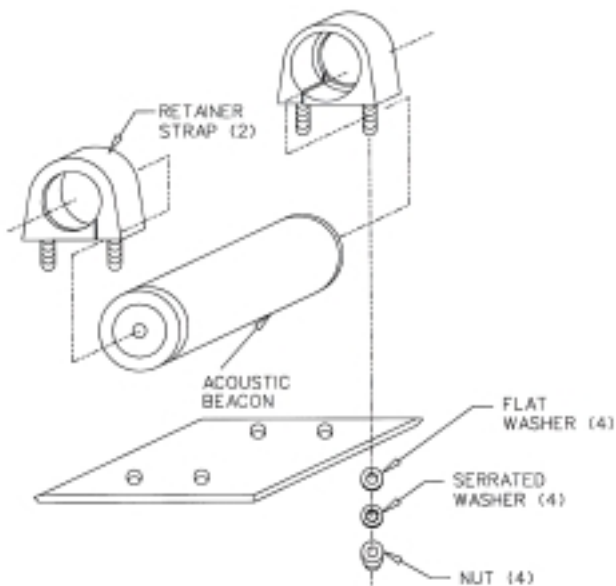

Figure 13. Method of Installing the N30A21A Mounting Kit
- D. Slip the retainer straps of the mounting kit over the ends of the beacon. See Figures 13 and 14.